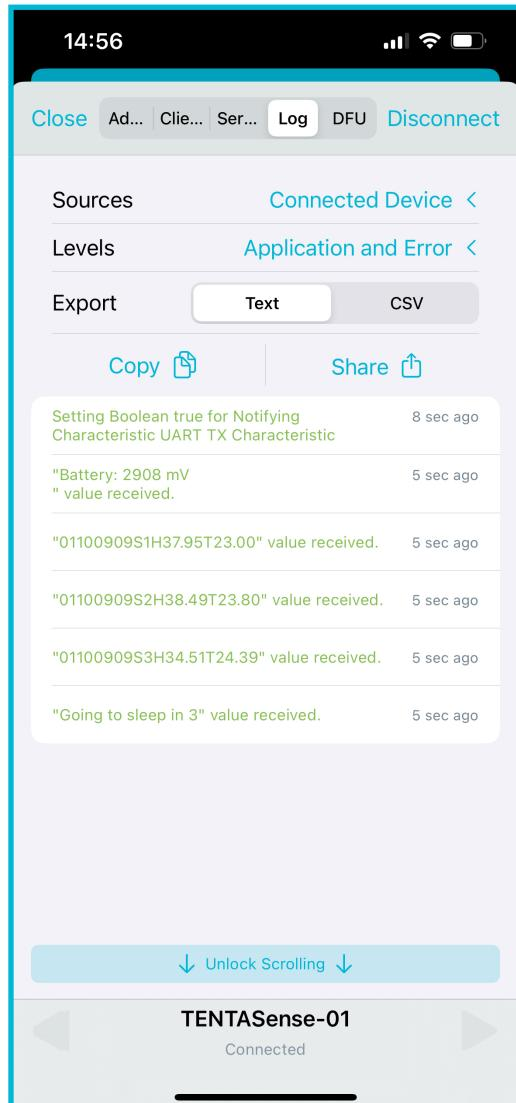

Figure 6: nRF Connect log screen, showing messages sent by the TENTASense.
- b. Next, select the Log screen to see messages from the TENTASense (Figure 6).